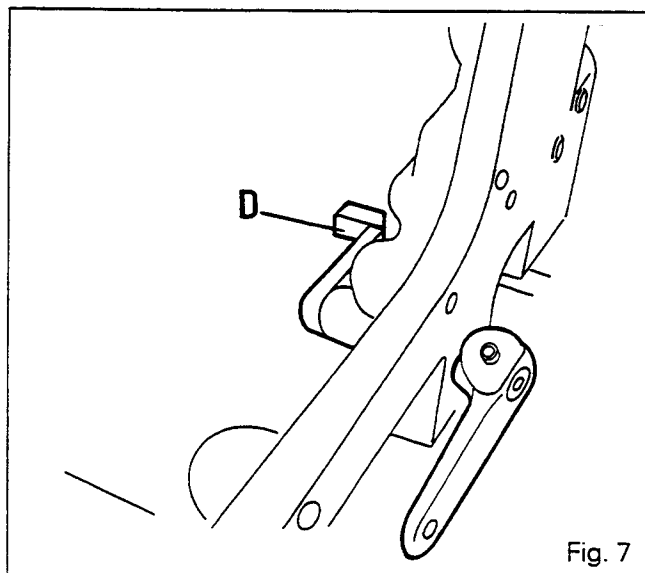

Fig. 7
25. Check that the control finger «D» is in the forward direction (for gearbox with creeper gears) (Fig. 7).